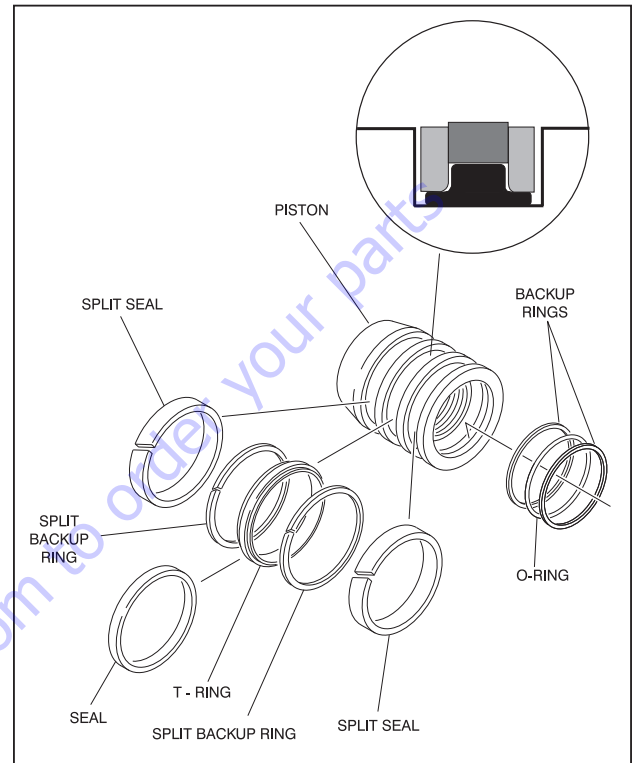

Figure 5-37. Piston Seal Kit Installation
**NOTE:** The backup rings for the solid seal have a radius on one side. This side faces the solid seal. (See magnified insert in Figure 5-37.) The split of seals and backup rings are to be positioned so as not to be in alignment with each other.
16. Place new guide locks and seals in the applicable outside diameter grooves of the cylinder piston. (See Figure 5-37., Piston Seal Kit Installation)